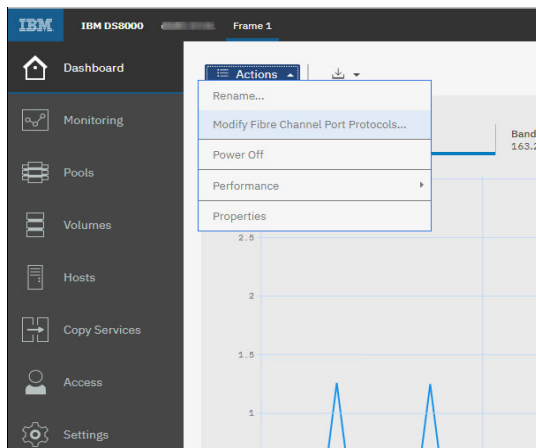

Figure 9-8 Quick way to modify the fiber adapter port protocols
- ▶ A quick way to perform this action is by clicking **Actions** on the Dashboard window and selecting **Modify Fibre Channel Port Protocols**, as shown in Figure 9-8.